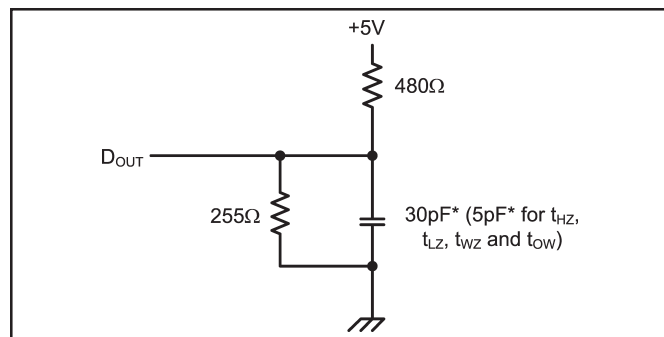

Figure 1. Output Load
- Transition is measured  $\pm 200mV$  from steady state voltage prior to change with specified loading in Figure 1. This parameter is sampled and not 100% tested.
Output Load	See Figures 1 and 2